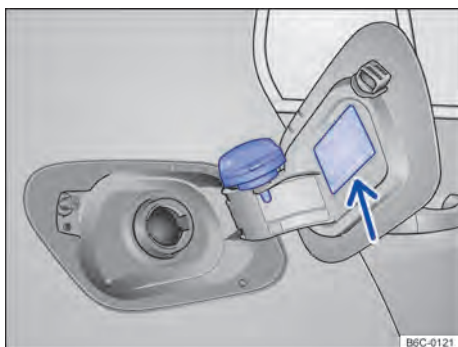

Fig. 158 Open tank flap with tank cap attached to the holder.
- Remove the tank cap rotating it counter clockwise and stow it into the holder on the tank flap → Fig. 158.